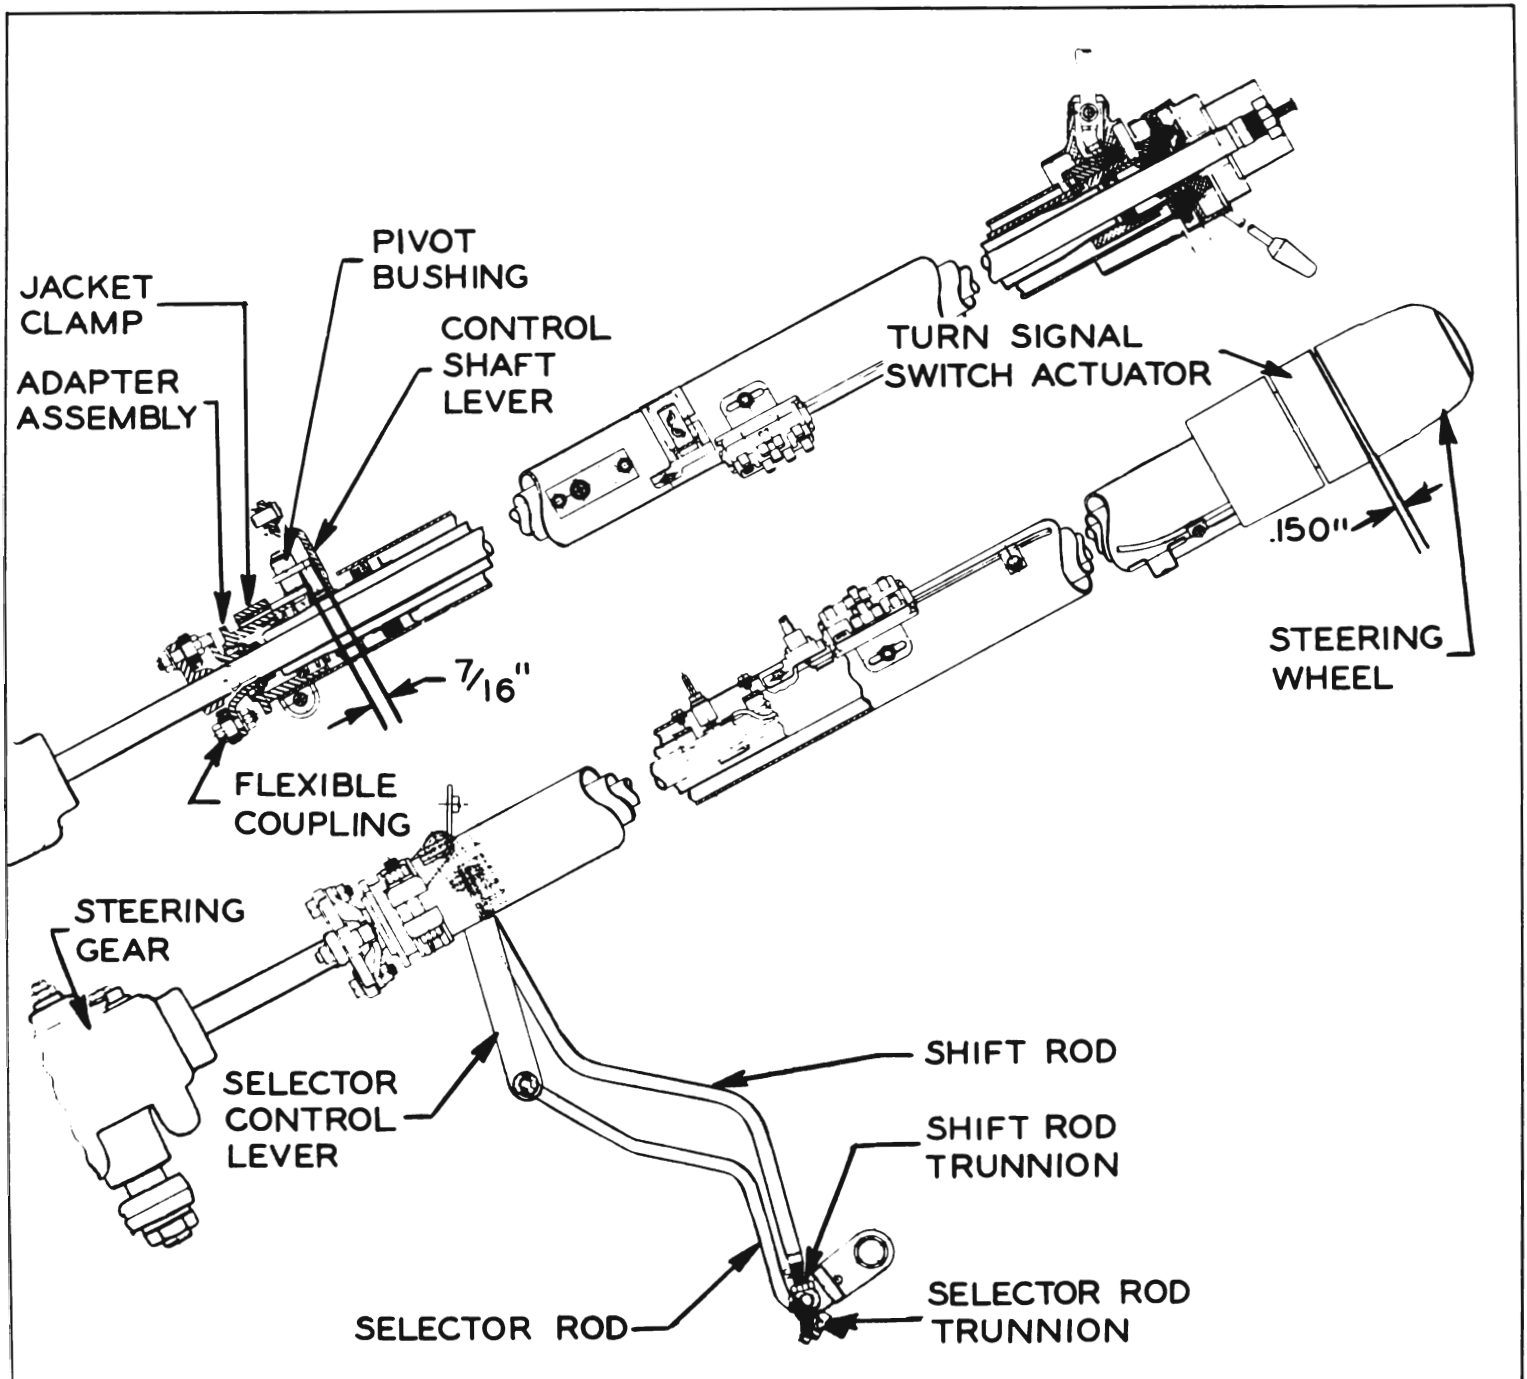

Figure 4-12—Synchromesh Transmission Shift Controls
1. With adapter assembly forced against flexible coupling flange, raise or lower jacket clamp until selector control lever pivot bushing clears control shaft lever by $\frac{7}{16}$ ". Then tighten clamp securely. See figure 4-12.